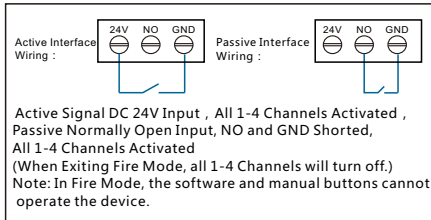

Figure 8. Fire Interface Description
7. Fire interface: (see Figure 8)